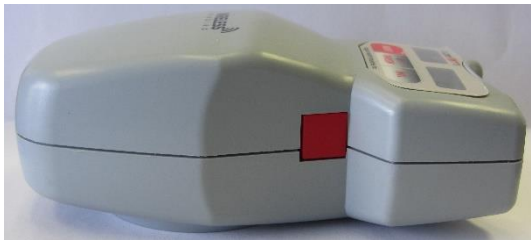

Figure 3: Inclinometer Cycle Switch
- Inclinometer Cycle Switch: Red button located on side of device. In inclinometer test mode, this button is used to capture and cycle through to capture angle readings, (see Figure 3).